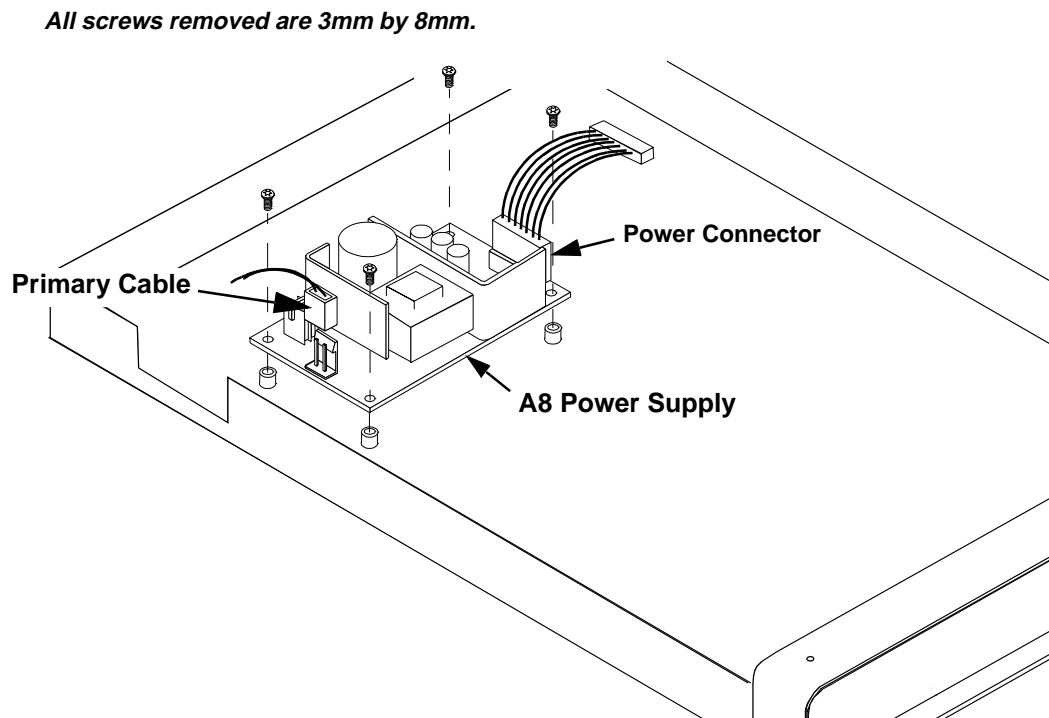

Figure 17 Removing the A8 Power Supply Assembly
1. Disconnect the power connector from the A8 power assembly, see figure 17.